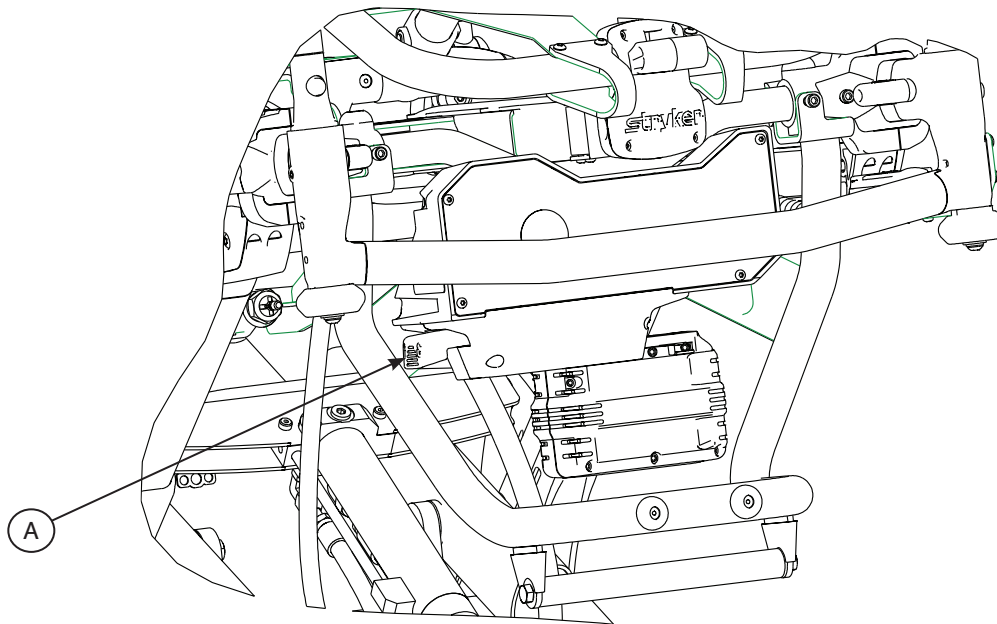

Figure 15 - Battery Removal & Replacement
To remove the battery, locate the **RED** battery release (A) along the patient right side of the foot end control enclosure (see Figure 15). Push the battery release button to release the latch. Slide the released battery out of the enclosure to the right (not shown).